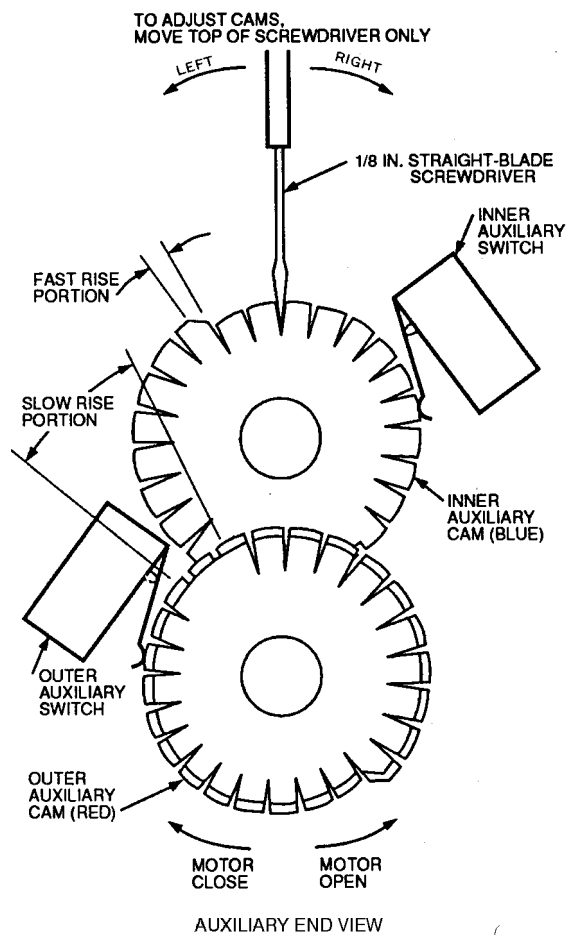

Fig. 61 — Auxiliary Switch Adjustment
4. Adjust auxiliary cam by inserting a $\frac{1}{8}$ -in. straight blade screwdriver into slot on cam and moving TOP of screwdriver to the right or left. See Fig. 61.